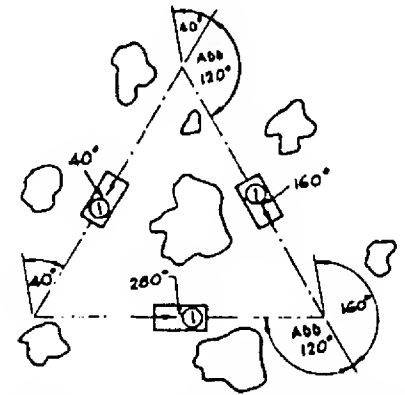

Figure 405 Compass Triangle Game or Equilateral Triangle
92. Play the compass triangle game (the equilateral triangle). Play the game by putting a small object such as a coin on the ground. Set your compass at any degree bearing less than 120° (as an example, 40°). Walk for 200 steps following the 40° . Add 120° to the original degree reading and reset your compass (in the example this would make it 160°). Walk 200 steps in this new direction. Again, add 120° to the second degree reading (this would make it 280°). Reset the compass and walk another 200 steps in this third direction. Stop. Bend over and pick up your coin. See Figure 405.